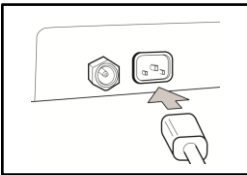

Figure 2
- B. **POWER CORD:** The punch comes with a detachable power cord located in the back. Connect the power cord to the machine before plugging the unit into a wall outlet (Figure 2)